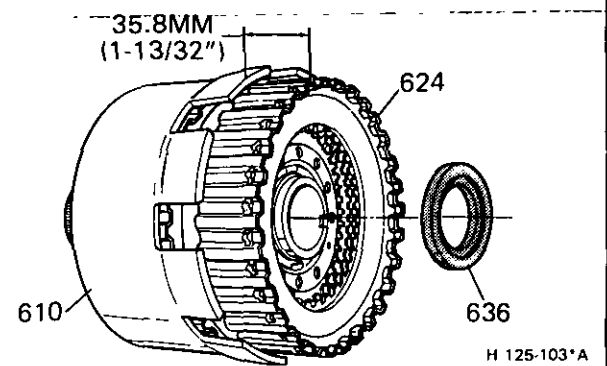

Figure 72 Assembled Height of Clutch Assemblies
- Assemble (Figures 72, 73 and 74)**
- Thrust washer stepped side out (636) - use petrolatum
- Measure (Figure 72)**